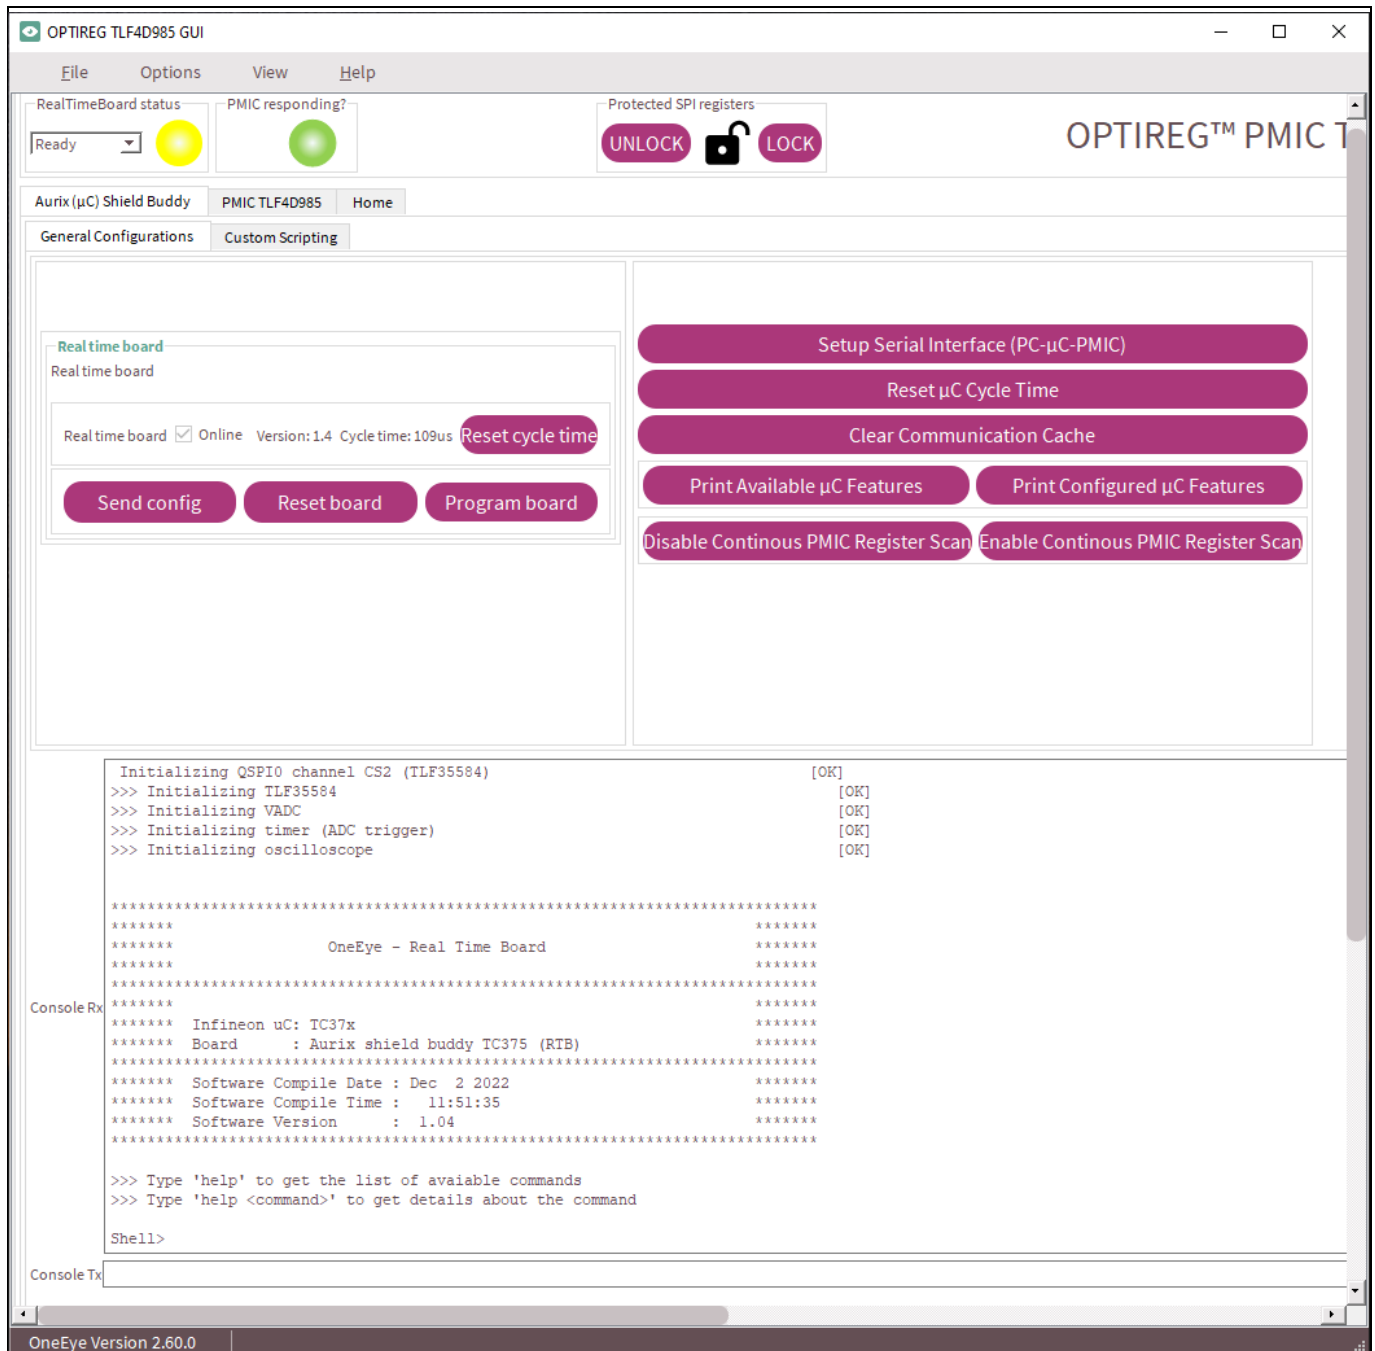

Figure 9 GUI after connecting to the real time board with firmware running
2. After some seconds the console window should show some text and header row shows the *RealTimeBoard status* as **yellow = Ready**. See Figure 9.